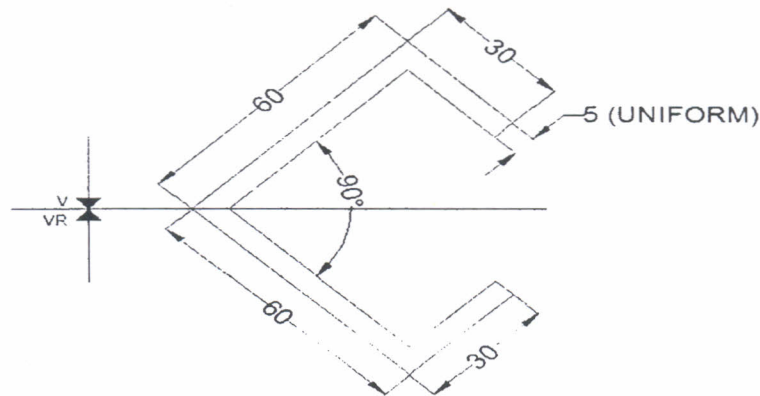

Fig.1
- Q7) a) Locate the position of shear centre for following cross section as shown in Fig. 1 of the beam. All dimensions are in mm. Derive the expression if any, you use. [12]